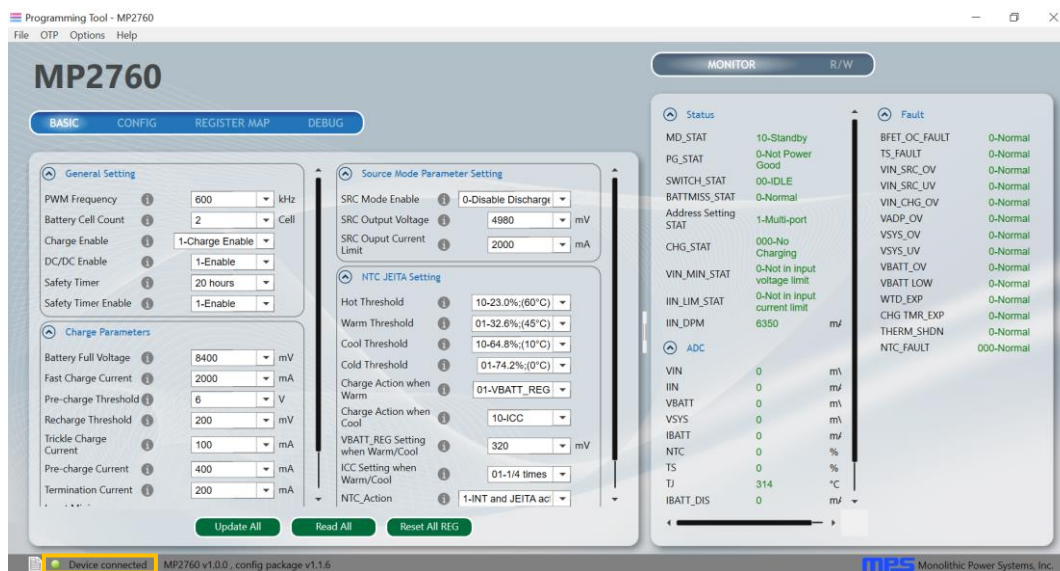

Figure 7: Status Shows Successful Connection
- If the connection is successful, “Device connected” is listed at the bottom (see Figure 7).